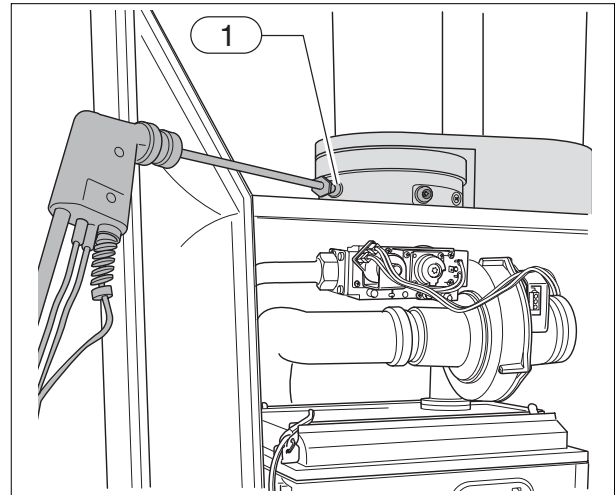

Fig. 17 Measuring the carbon monoxide content
3.5 Measuring the carbon monoxide content (CO)
- ▶ Measure the carbon monoxide content on the flue gas sampling point (→ fig. 17, [1]).